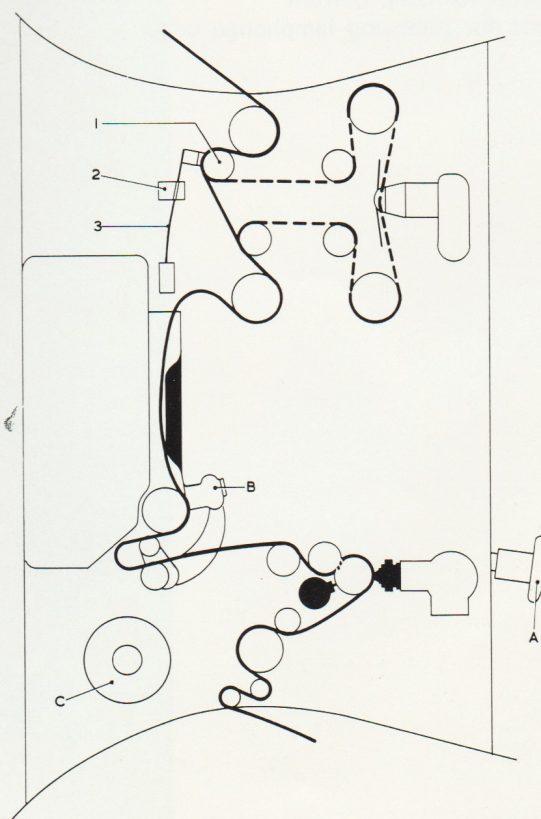

Fig. 4
- optical and magnetic** soundheads as Fig. 4,